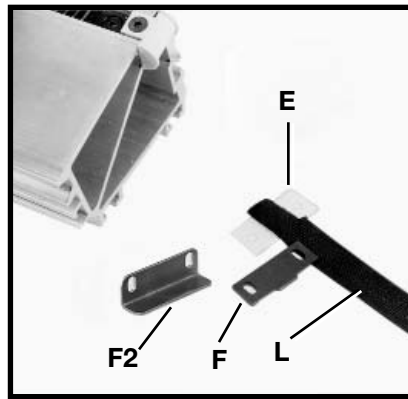

Fig. 17
5. Place one end of belt (L) Fig. 17 on wiper (E) and cover with retainer plate (F) and angle bracket (F2). **NOTE:** Cut-out section of belt (L) must be positioned with, or slightly below, right side of wiper (E).